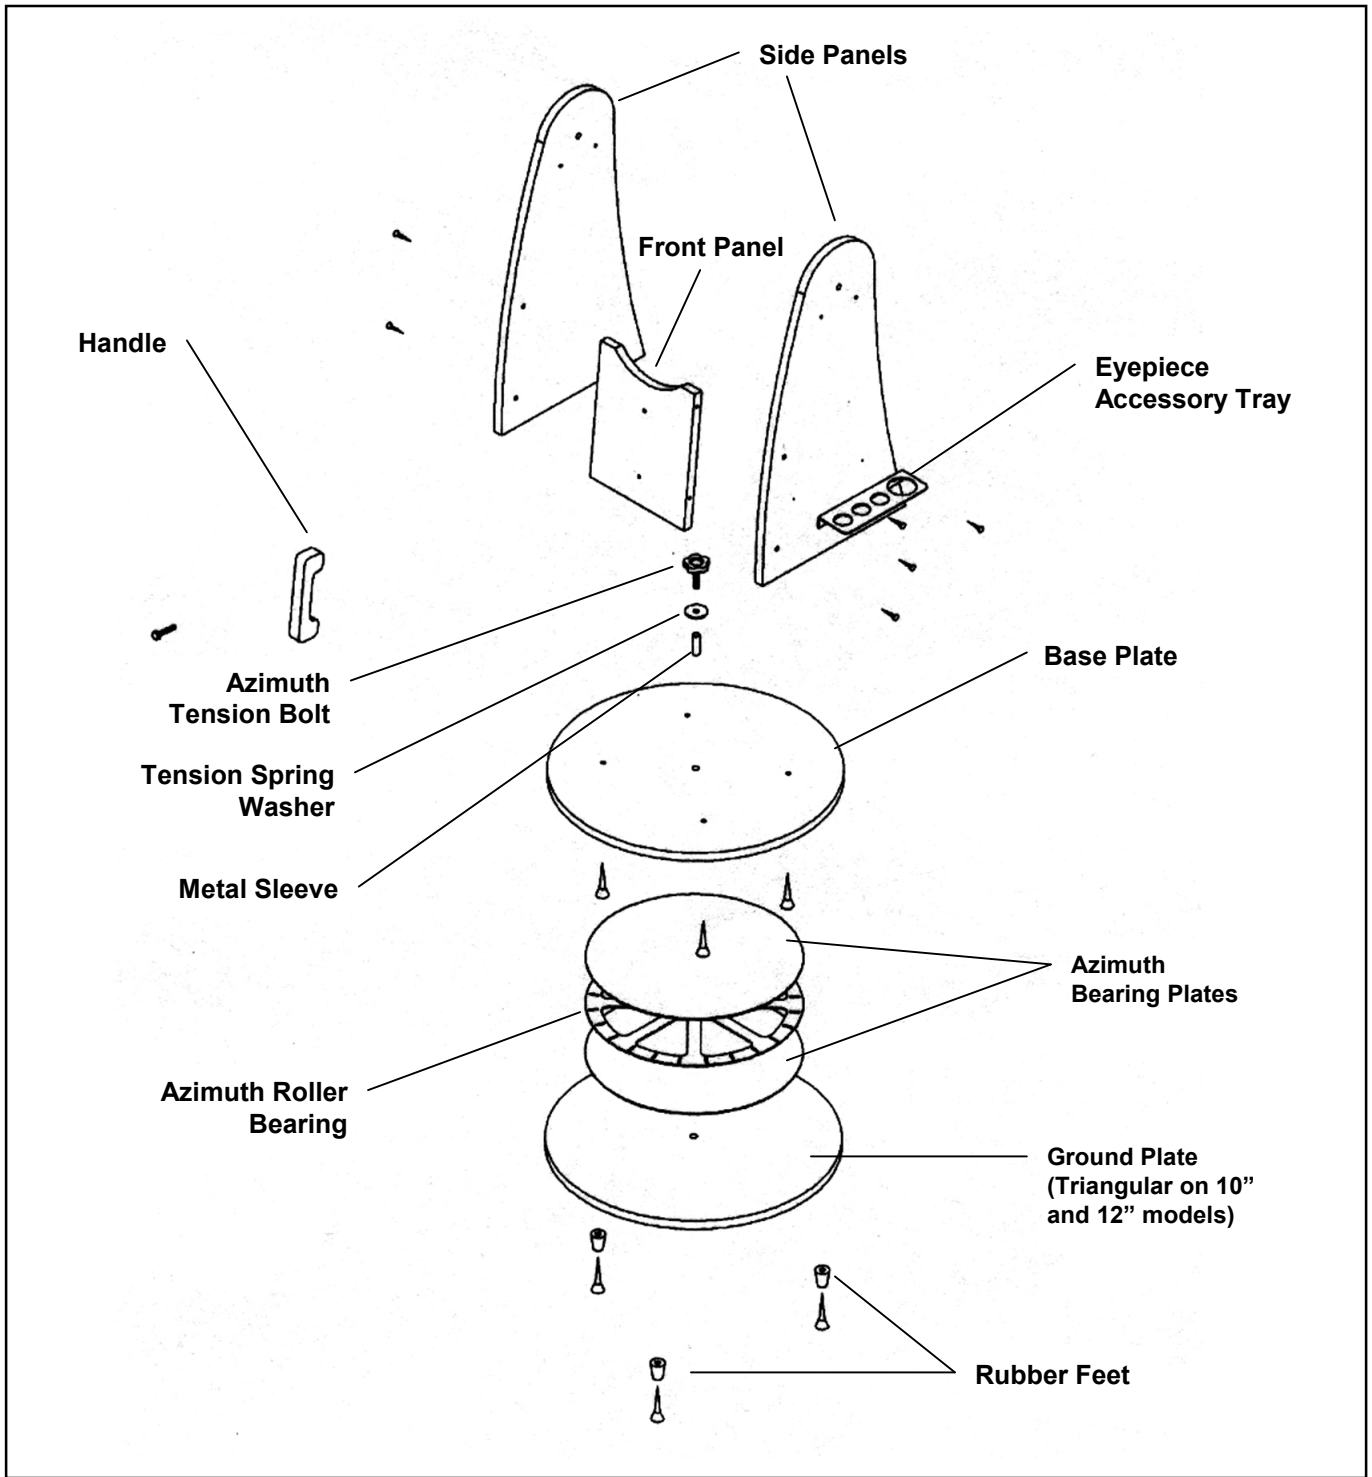

Figure 1 – Assembling the Base
1. Locate the front panel and the two side panels of the base (refer to Figure 1 to identify all the parts referred to in these instructions).